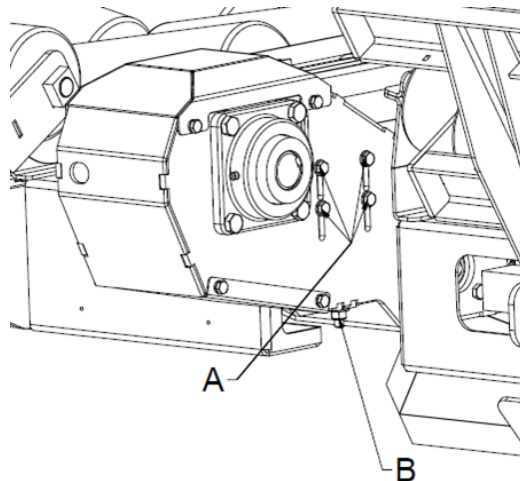

Figure 59 — Adjusting the Pusher Transmission Chain Tension
1. Loosen the four bolts on the side of the transmission (A, Figure 59).
2. Tighten the nut on the tension bolt underneath the transmission (B, Figure 59) until the correct tension is reached.
3. Tighten the four bolts on the side of the transmission (A, Figure 59).